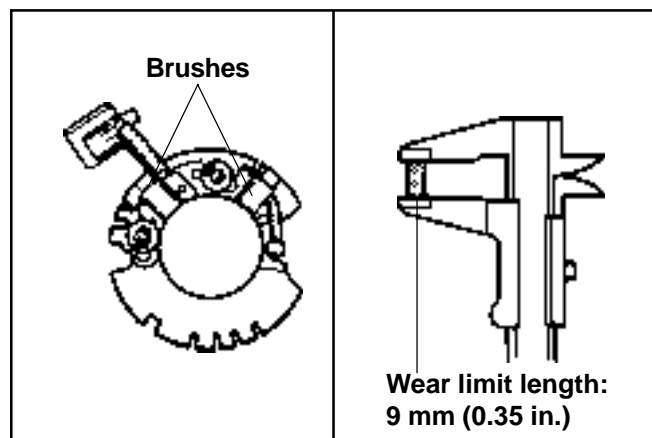

Figure 8-33. Brush Checking.
2. Inspect both the springs and brushes for wear, fatigue, or damage. Measure the length of each brush. The minimum length for each brush must be **9 mm (0.350 in.)**. See Figure 8-33. Replace the brush plate assembly if the condition of parts is out of specification or questionable.